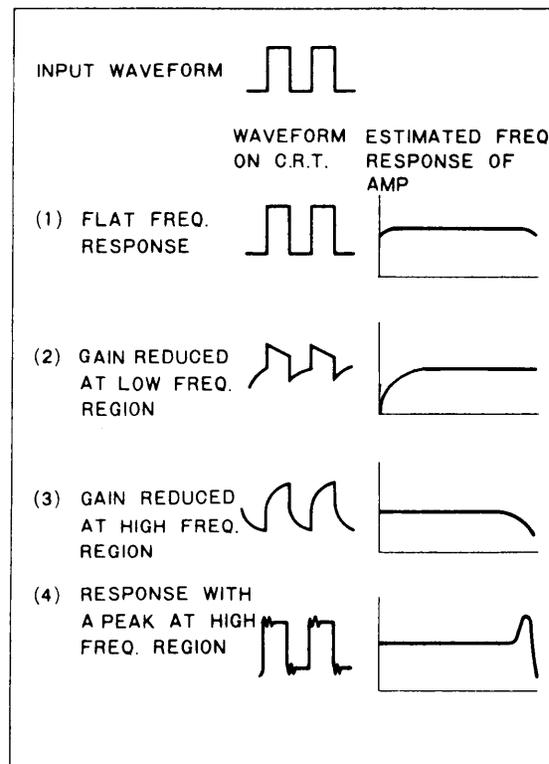

Fig. 9. Test of amplifier, using square wave.
2. Fig. 9 shows an example of the amplifier output waveforms and frequency characteristics obtained with the square wave input under various conditions. During these tests, the input to the amplifier must be adjusted to prevent saturation caused by excessive signal input.